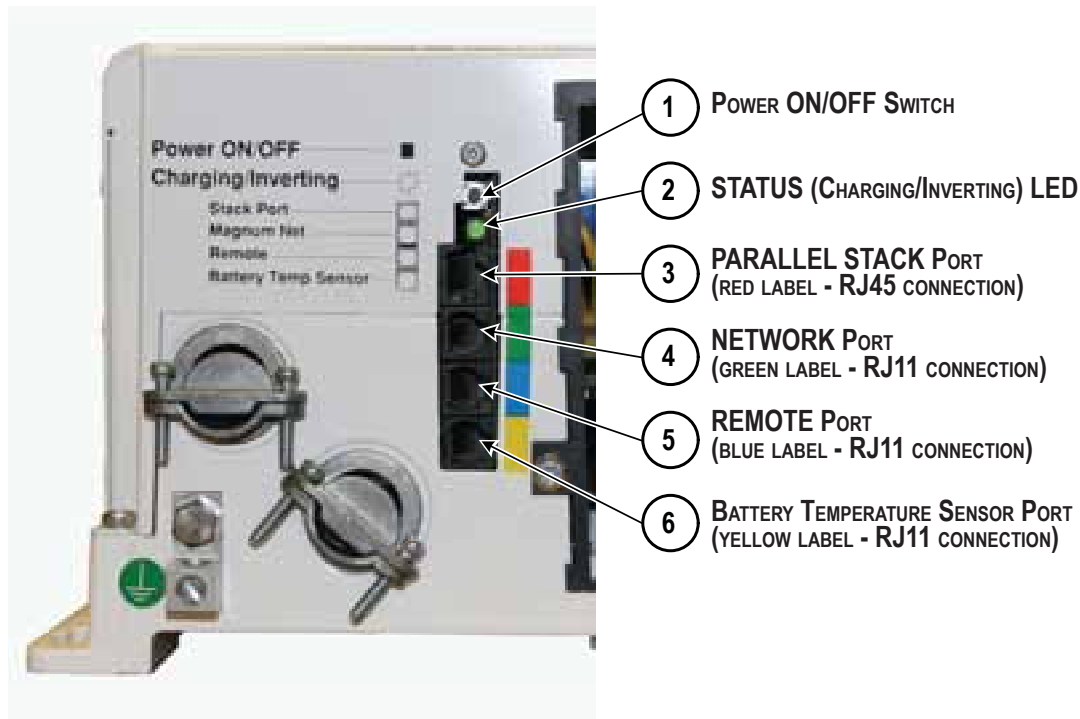

Figure 1-1, Power Switch, Status LED and Accessory Connection Ports
The front of the MS-PAE Series is equipped with the following features (refer to figures 1-1 and 1-2):
Info: If the inverter is installed in an area where moisture may occur, we recommend putting silicone dielectric grease compound into the RJ45/RJ11 electrical ports (items 3 - 6 as shown in figure 1-1). Before installing the accessory cables or if leaving any ports open, squirt a liberal amount into each port. Silicone dielectric compound makes an effective moisture barrier to help prevent corrosion.